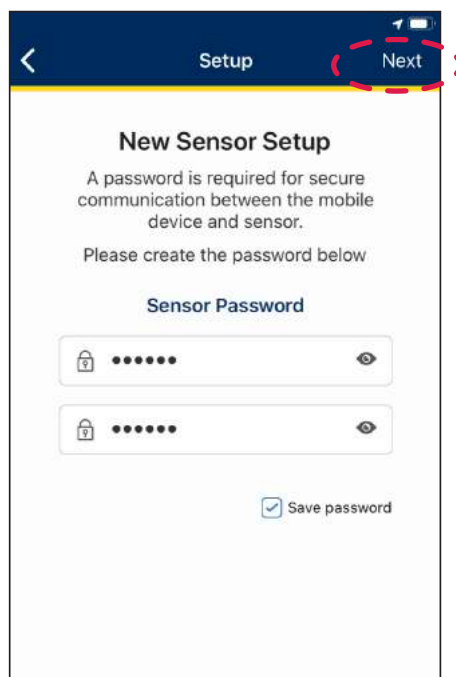

Figure 9
4. Select **Next** (see figure 9).